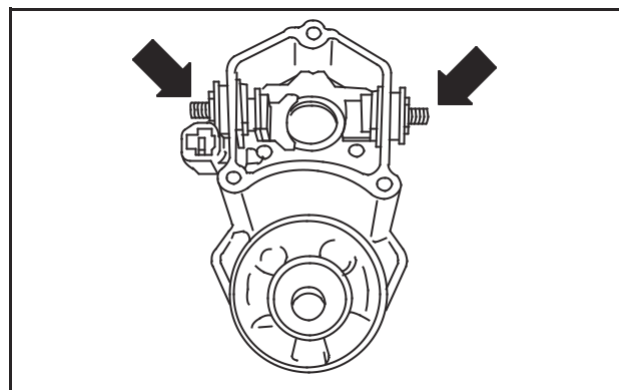

Fig. 64 – Loosen Nuts
5. Remove two nuts with 14 mm wrench, Fig. 64.